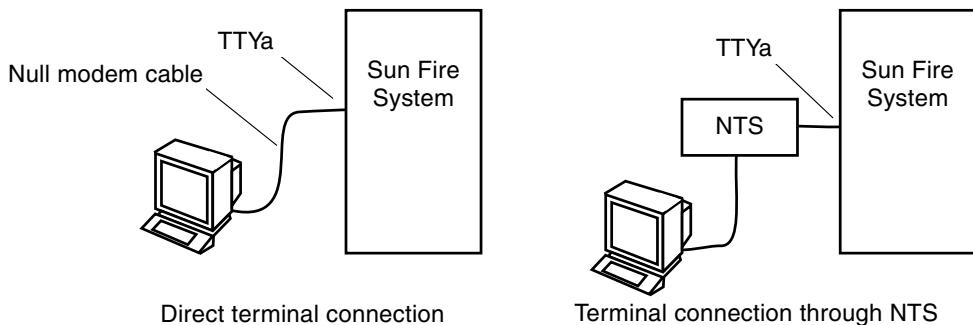

FIGURE 5-3 Serial Cable Connections
2. Connect the other end of the serial cable to the chosen ASCII terminal or NTS server (FIGURE 5-3).